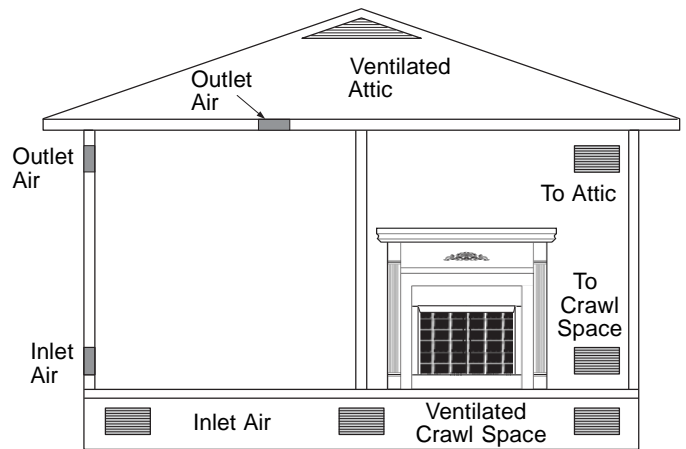

**Figure 4 - Ventilation Air from Inside Building**
This fresh air would come from an adjoining unconfined space. When ventilating to an adjoining unconfined space, you must provide two permanent openings: one within 12" of the ceiling and one within 12" of the floor on the wall connecting the two spaces (see options 1 and 2, Figure 4). You can also remove door into adjoining room (see option 3, Figure 4). Follow the National Fuel Gas Code, ANSI Z223.1/NFPA 54, Air for Combustion and Ventilation for required size of ventilation grills or ducts.
- where curtains, furniture, clothing, or other flammable objects are less than 36" from front or 42" from top of firebox; for side clearances see Figure 4, page 8
Example: The face of a mantel, bookshelf, etc. is made of combustible material and protrudes 3 1/2" from the wall. This combustible material must be 4" from the side of the fireplace cabinet (see Figure 4, page 8).